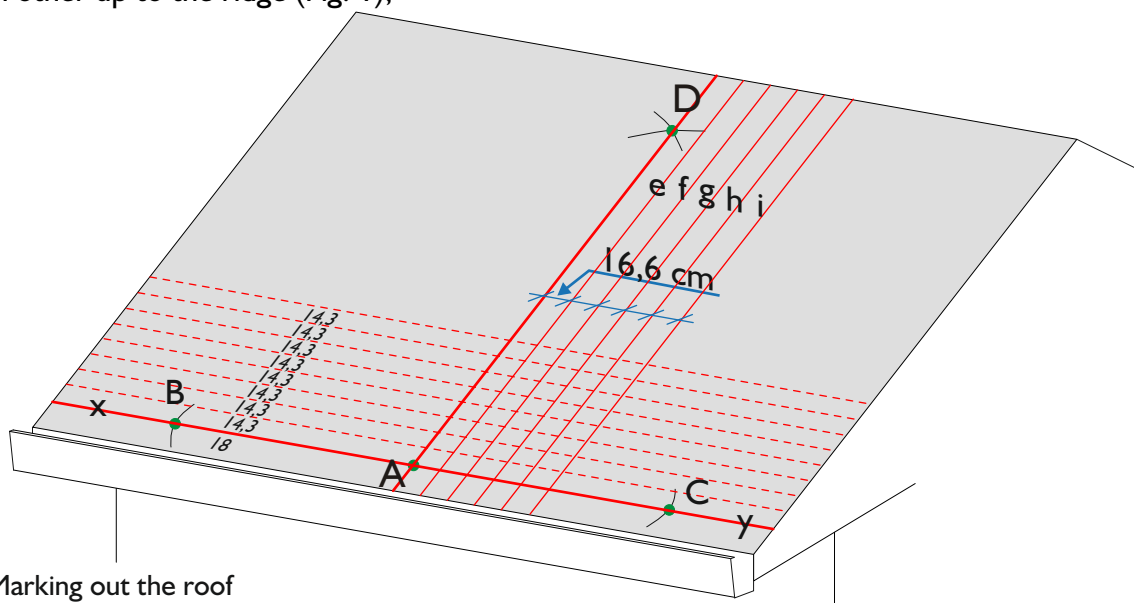

Fig. 1 - Marking out the roof
- from each other up to the ridge (Fig. 1);